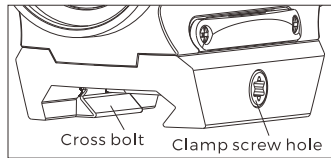

Fig 3
2. Firstly insert the Allen wrench into the clamp screw hole, then rotate to loosen the convex set, slide the sight into the weapon rail to a right position, and finally fasten the clamp screw. (Fig3)